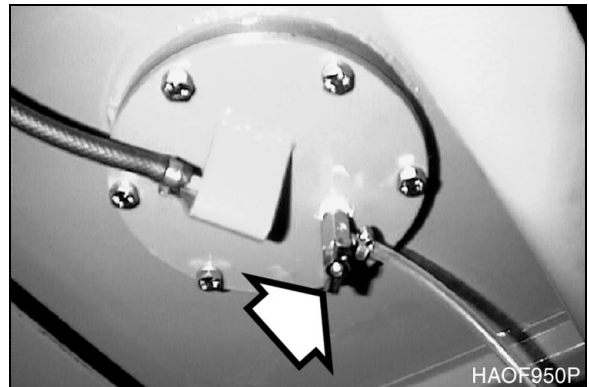

Figure 17
12. Make sure fuel tank drain valve (Figure 17) on bottom of tank is closed.